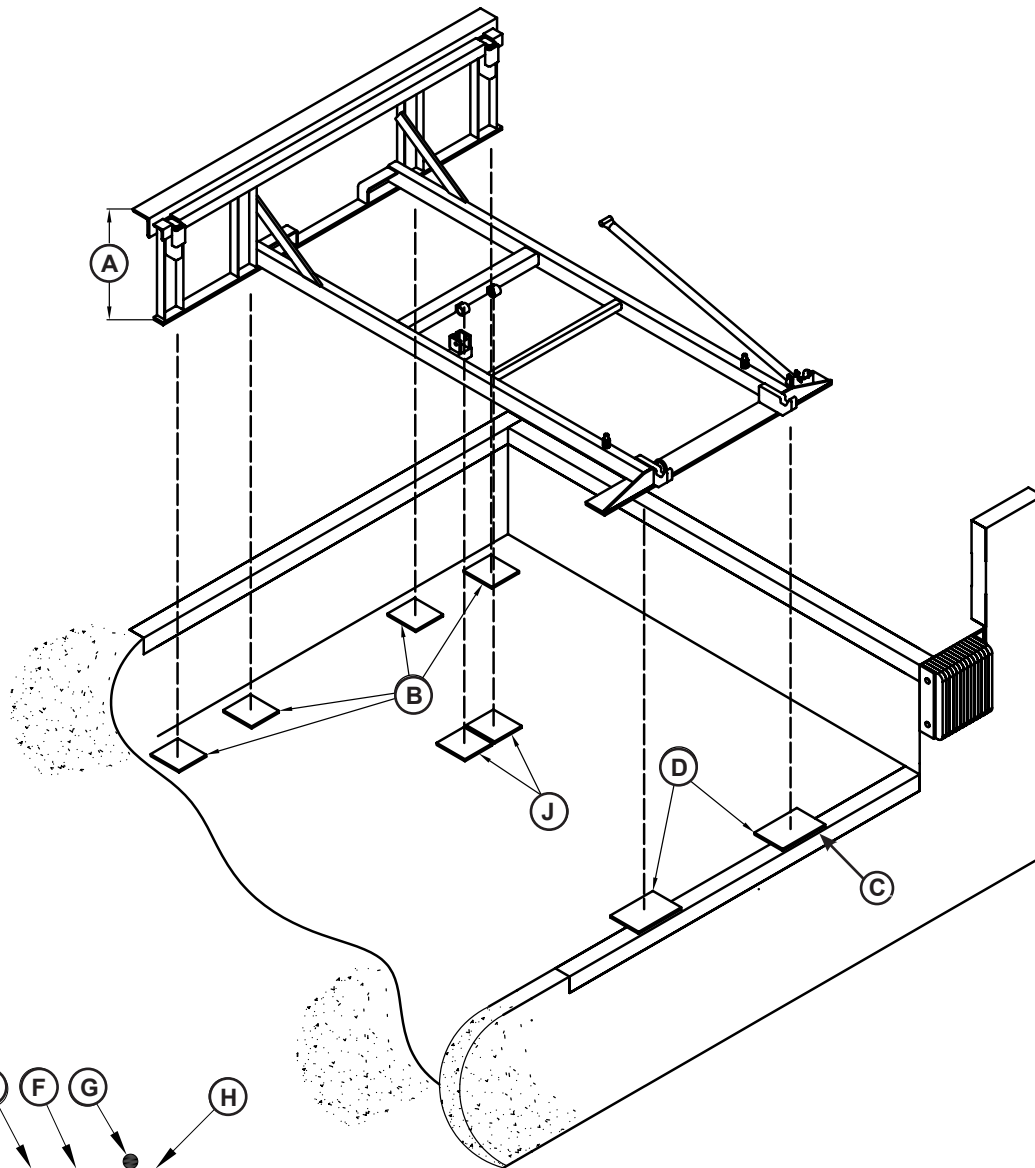
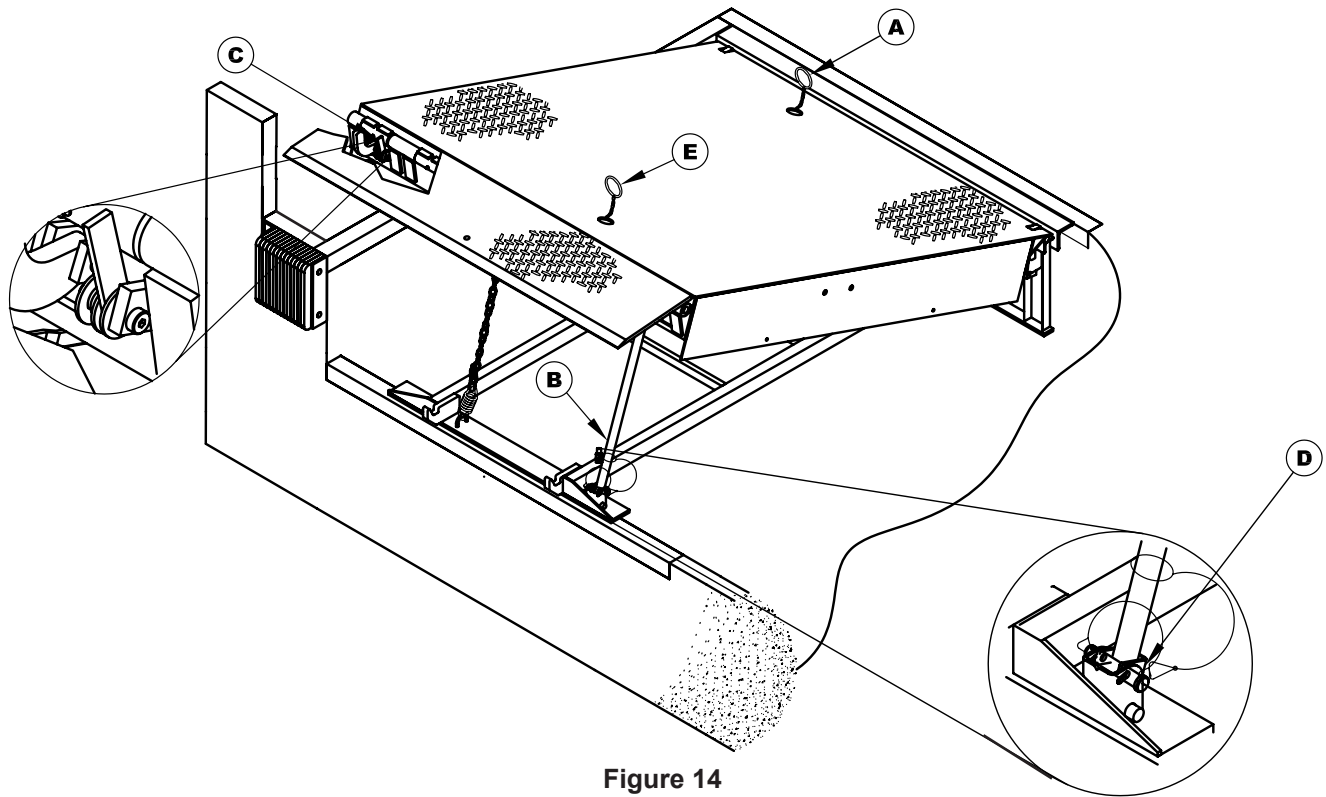
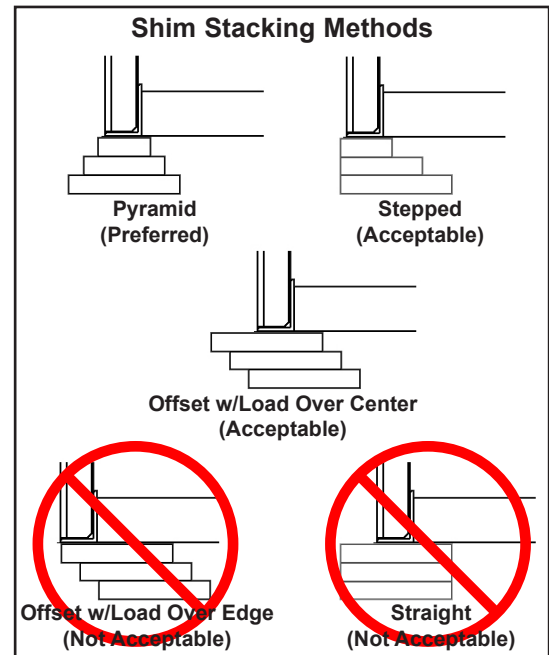

Figure 9
Figure 14
Figure 15
22. Shim and weld the maintenance prop (Figure 14):
a. Install shims under maintenance prop (B) where prop attaches to leveler frame. Make sure prop is solidly shimmed.
b. Raise maintenance prop (B) to the service (upright) position and lock prop in this position using an OSHA approved locking device.
23. Install shims under lift arm (J, Figure 9 on page 14) at locations using an acceptable shimming method (see Figure 15). The lift arm pivot must be solidly shimmed the entire length of the lift arm pivot. Make sure the lift arm pivot is level from side-to-side.